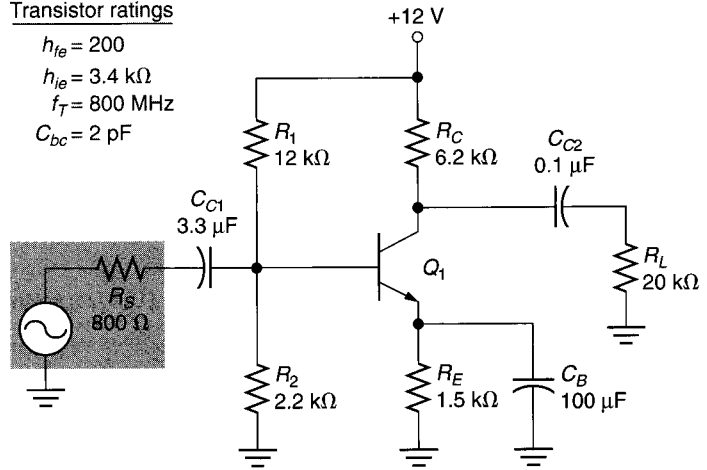

FIGURE 14.33
29. Calculate the overall values of  $f_{C1}$  and  $f_{C2}$  for the amplifier in Figure 14.33.